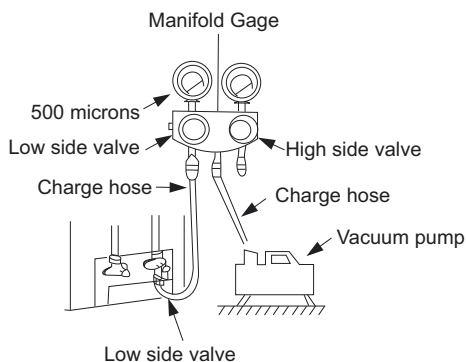

Fig. 20 — Manifold
3. Fully open the low side of manifold gage (see Fig. 20).